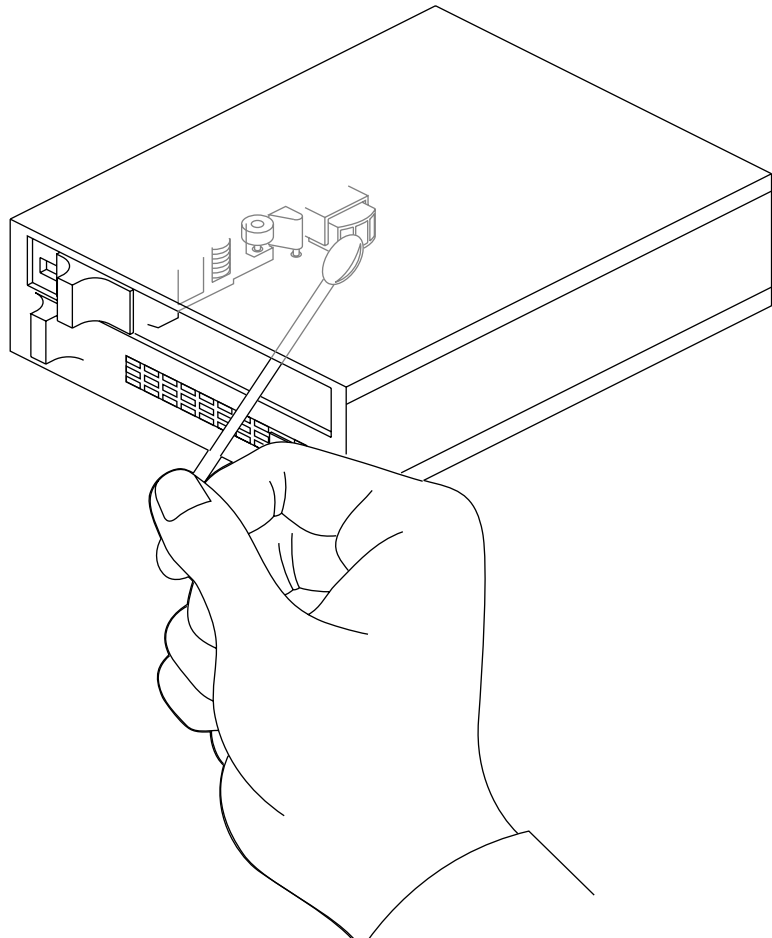

Figure B-3 Cleaning the Tape Head
3. Dip a clean, nonfibrous cotton swab in either tape head cleaning fluid or Freon-TF, and wipe the tape head (see Figure B-3).